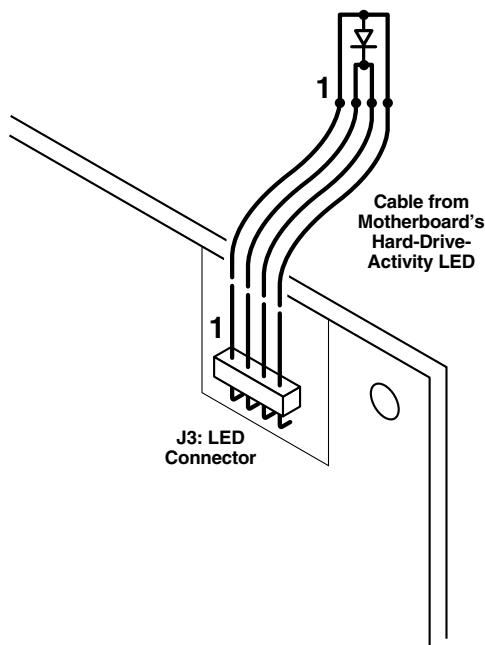

Figure 4-2. The LED connection.
8. (Optional) Most computers have one or more hard-drive-activity LEDs on their front panel. If you want to, you can use your own cabling (because we do not include cables for this purpose) to attach one of these indicators to the Adapter's four-pin LED connector, J3 (see Figure 3-2 on page 19 and Figure 4-2 on the next page). Once you do so, the LED will light whenever there is activity involving the attached Adapter anywhere on the SCSI bus.